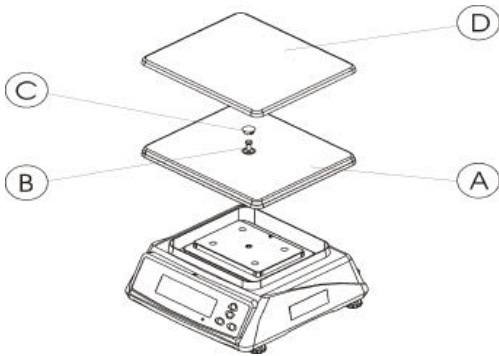

FIG 1
- 1.2 Locks the plastic platter (FIG 1 A) to the platter holder, with the screw (FIG 1 B) included, and then apply the screw rubber cap (FIG 1 C).
- 1.3 Place the stainless steel platter (FIG 1 D) onto the plastic platter.